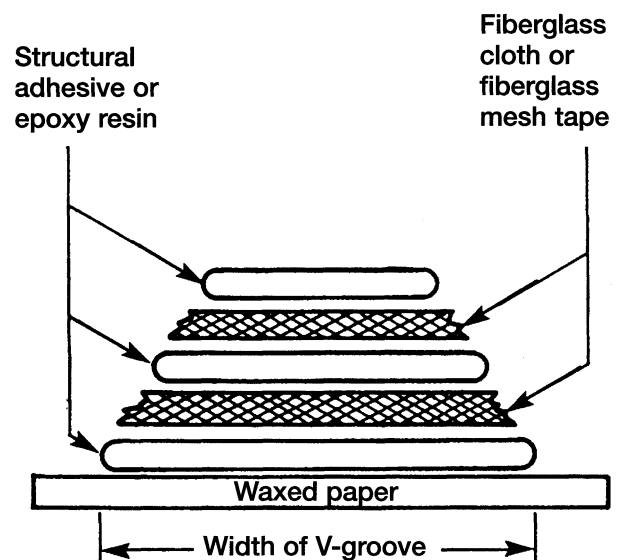

Fig. 2 Fabricated Panel
1. Cover waxed paper or plastic with adhesive backed nylon mesh (drywall tape) larger than the patch required (Fig. 2).
3. Apply a liberal coat of epoxy adhesive over the reinforcement mesh (Fig. 2). If necessary apply a second or third coat of epoxy and mesh after first coat has cured. The thickness of the patch should be the same as the repair area.